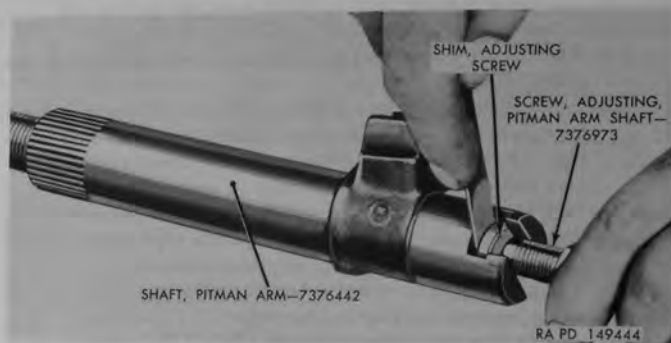

Figure 200. Method of adjusting Pitman arm shaft adjusting screw.
- (1) Place original adjusting screw shim (MM) on Pitman arm shaft adjusting screw (LL). Insert adjusting screw and shim into slotted end of Pitman arm shaft (JJ).
- (2) Check clearance between adjusting screw head and shaft in manner shown in figure 200. Clearance must not exceed specified amount (par. 353). If clearance is greater, select another thicker adjusting screw shim (MM). Four sizes of shims are available.